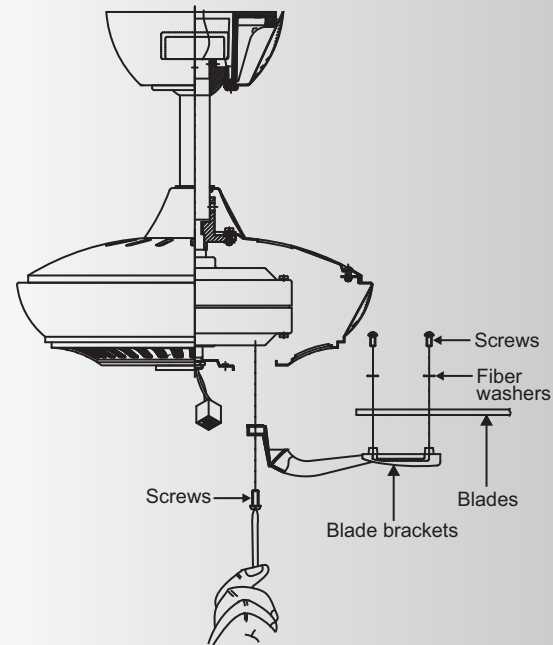

Fig. 16
Step 2. Slide the canopy up to the mounting bracket and place one of the key hole slots over the mounting screw on the mounting bracket. Rotate the canopy until the screw head locks in place at the narrow section of the key hole. See figure 16.
Step 1. Attach a blade to a blade bracket using the screws and fiber washers provided. (Fig. 16)
Step 2. Attach each blade assembly to the motor using the "Pre-Installed" mounting screws in the blade bracket. (Fig 16)